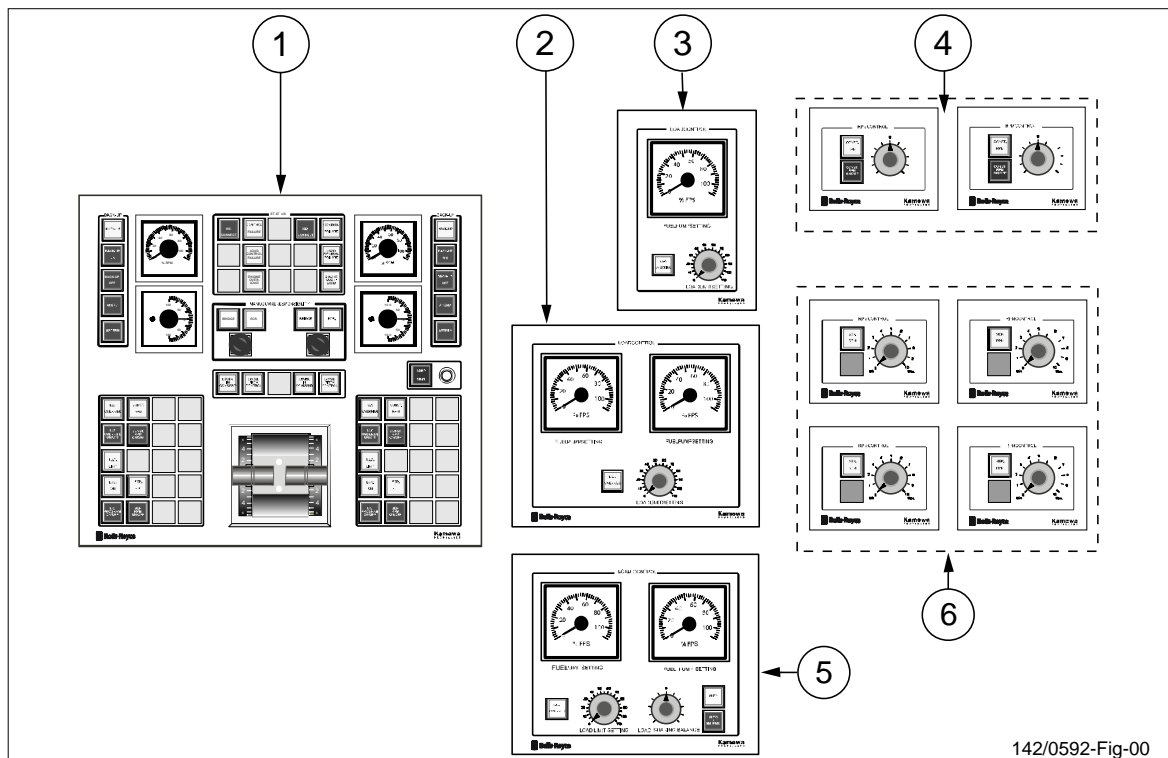

Figure 2 Main propeller manoeuvre equipment found in the engine control room (ECR).
*The figure 2 shows the manoeuvre equipment found in the ECR.